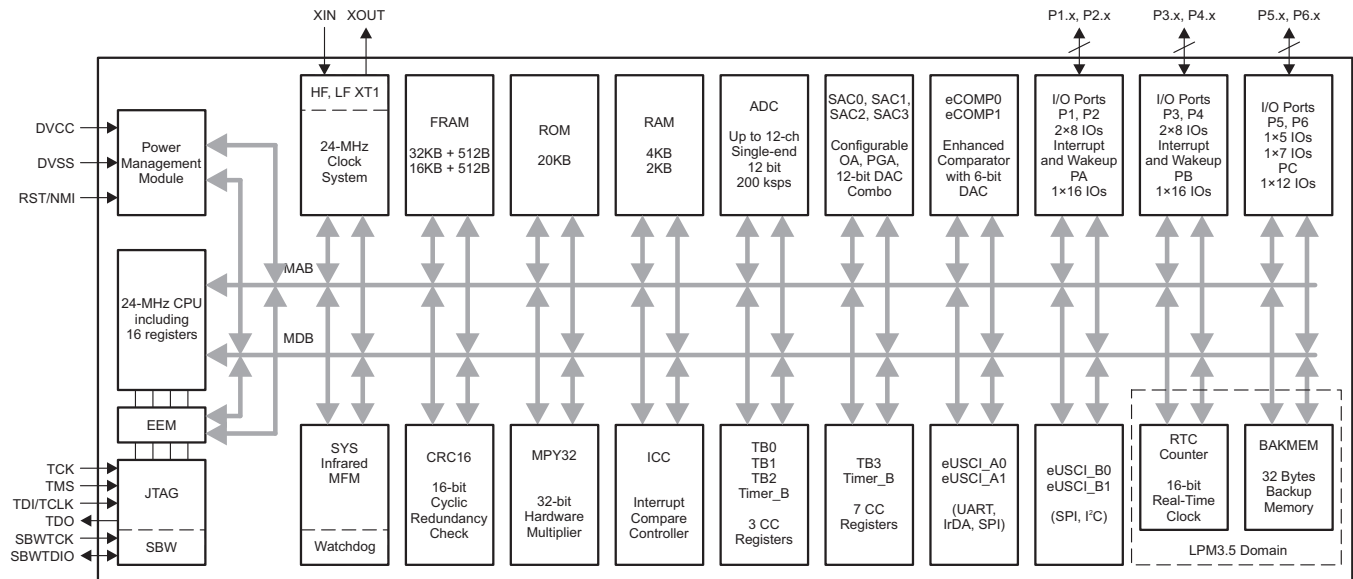
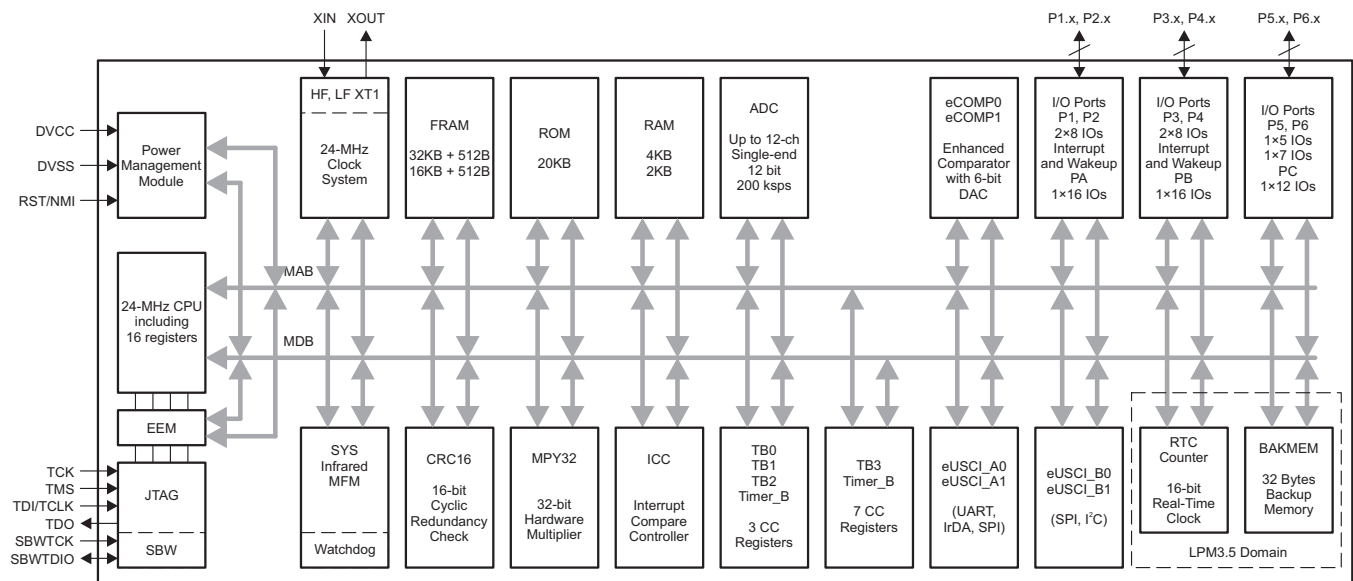

Figure 1-1. MSP430FR235x Functional Block Diagram
Figure 1-2. MSP430FR215x Functional Block Diagram
Figure 1-1 shows the MSP430FR235x functional block diagram.
Figure 1-2 shows the MSP430FR215x functional block diagram.
- Corrected the ROM size in Figure 1-1 MSP430FR235x Functional Block Diagram and Figure 1-2 MSP430FR215x Functional Block Diagram 4 - Added a note on all VQFN pinouts to indicate that the thermal pad should be connected to VSS 11 - Corrected Figure 4-4, 32-Pin RSM (VQFN) (Top View) – MSP430FR235x..... 13 - Changed the note that begins "Supply voltage changes faster than 0.2 V/μs can trigger a BOR reset..." in Section 5.3, Recommended Operating Conditions 27 - Added the note that begins "TI recommends that power to the DVCC pin must not exceed the limits..." in Section 5.3, Recommended Operating Conditions 27 - Changed the note that begins "A capacitor tolerance of ±20% or better is required..." in Section 5.3, Recommended Operating Conditions 27 - Combined former sections 5.8 and 5.10 into Section 5.9, Production Distribution of LPM Supply Currents 31 - Corrected the "SVS disabled" condition for Figure 5-1 31 - Added the note "See MSP430 32-kHz Crystal Oscillators for details on crystal section, layout, and testing" to Table 5-3, XT1 Crystal Oscillator (Low Frequency) 35 - Changed the note that begins "Requires external capacitors at both terminals..." in Table 5-3, XT1 Crystal Oscillator (Low Frequency) 35 - Added the $t_{TB, cap}$ parameter in Table 5-13, Timer_B..... 45 - Corrected the test conditions for the R_I parameter in Table 5-20, ADC, Power Supply and Input Range Conditions. 51 - Removed ADCDIV from the equation for the ADC conversion time because ADCCLK is after division in Table 5-21, ADC, Timing Parameters 51 - Added the note that begins "$t_{Sample} = \ln(2^{n+1}) \times \tau$..." in Table 5-21, ADC, Timing Parameters 51 - Changed the unit from "nV" to "μV" for the "Input noise voltage" in the Table 5-25, SAC, OA 55 - Changed the unit from "nV/Hz" to "nV/√Hz" for the "Input noise voltage density" in the Table 5-25, SAC, OA 55 - Removed the I_{ref} trim parameter from Table 5-27, FRAM 57 - Changed the bitfield name from RTCCLK to RTCKSEL in the table note on Table 6-9, Clock Distribution 68 - Added Section 6.10.17, Cross-Chip Interconnection (SACx are MSP430FR235x Devices Only) 83 - Added P1SELC information in Table 6-41, Port P1, P2 Registers (Base Address: 0200h) 86 - Added P2SELC information in Table 6-41, Port P1, P2 Registers (Base Address: 0200h) 86 - Added P3SELC information in Table 6-42, Port P3, P4 Registers (Base Address: 0220h) 87 - Added P4SELC information in Table 6-42, Port P3, P4 Registers (Base Address: 0220h) 87 - Added P5SELC information in Table 6-43, Port P5, P6 Registers (Base Address: 0240h) 87 - Added P6SELC information in Table 6-43, Port P5, P6 Registers (Base Address: 0240h) 87 - Changed CRC covered end address to 0x1AF7 in table note (1) in Table 6-70, Device Descriptors 107